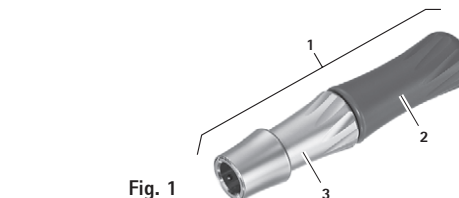

Fig. 2
- Insert CO₂ cartridge 4 into cartridge sleeve 2, see Fig. 2.